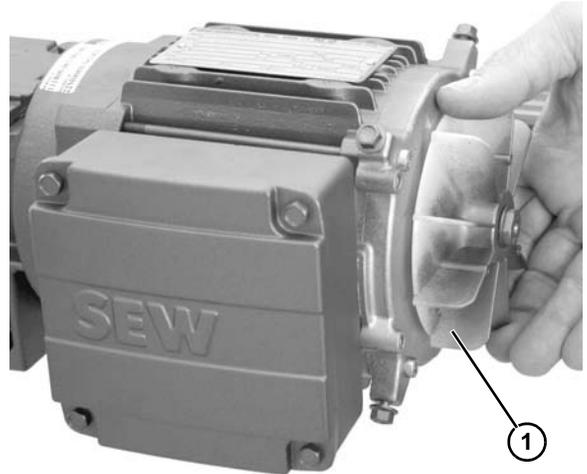
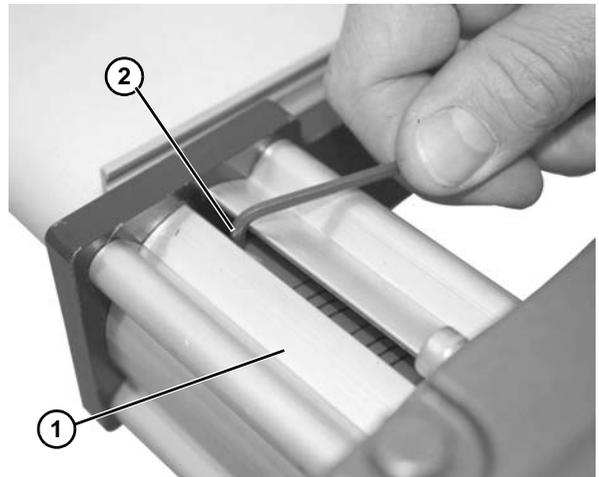

Figure 14
Figure 15
3. Rotate fan (**Figure 14, item 1**) by hand until set screw is visible through slot in spacer (**Figure 15, item 1**).
4. Loosen set screw on gearhead shaft (**Figure 15, item 2**).